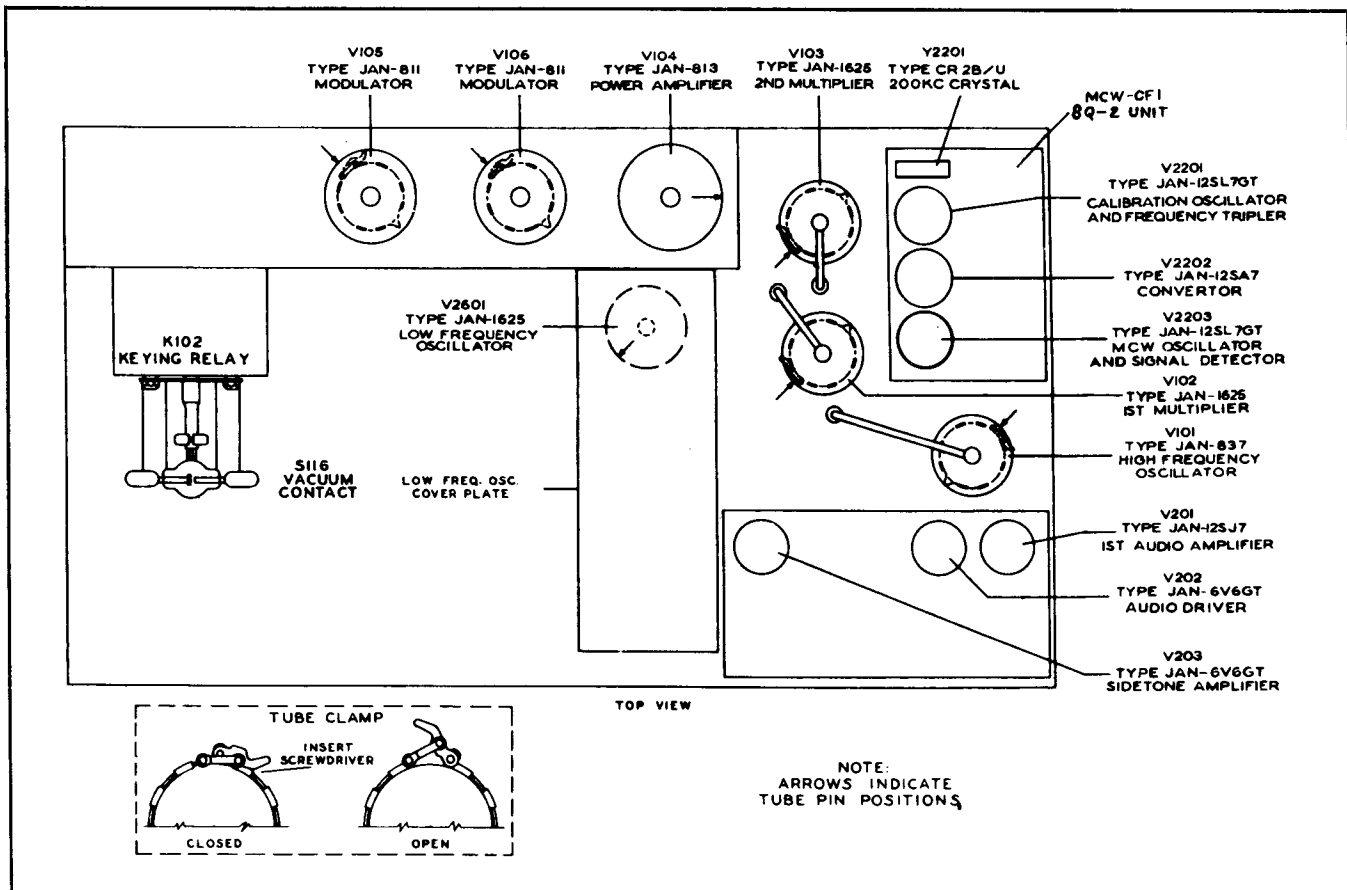

Figure 5-1. Tube Placement Diagram AN/ART-13A
(1) All of the tubes used in this equipment are located in Radio Transmitter T-47A/ART-13 (AN/ART-13A) or Radio Transmitter T-412/ART-13B (AN/ART-13B), and are easily accessible when the top of that unit is removed. Before removing this cover, be sure to turn off entire equipment by setting LOCAL-REMOTE switch to "LOCAL" position and the EMISSION switch (on transmitter panel) to "OFF". Also, make certain that the KEY, MICROPHONE and THROTTLE switches are open.
(2) REMOVING TOP COVER OF TRANSMITTER.—One hold-down screw is used at each side of the top cover. To remove the cover, insert a coin or screw driver in each screw and make a half turn counterclockwise. The cover can now be lifted off.
(3) LOCATING TUBES.—The position of each of the tubes used in this equipment is shown in the following illustration. All tubes, with exception of V2601 (Low Frequency Oscillator), are visible and readily accessible when transmitter cover is removed. The Low Frequency Oscillator tube V2601 can be reached by removing the cover of the Low Frequency Oscillator Unit. This unit is located directly behind control "G" and the cover contains numerous ventilation holes. To remove cover, take out screws around the rim of the cover.
(4) REMOVING TUBES.—Tube clamps are used on some of the tubes in this equipment to prevent the tube from coming out of the socket under vibration incident to normal service. The operation of the tube clamp is shown in the insert sketch on figure 5-1. To open clamp, insert screw driver as shown and gently pry open. The clamps on tubes V105 and V106 are accessible through the rear cover plate. Clamps on tubes V102 and V103 can best be reached from top of transmitter. Obtain access to clamp on V101 through side cover plate.